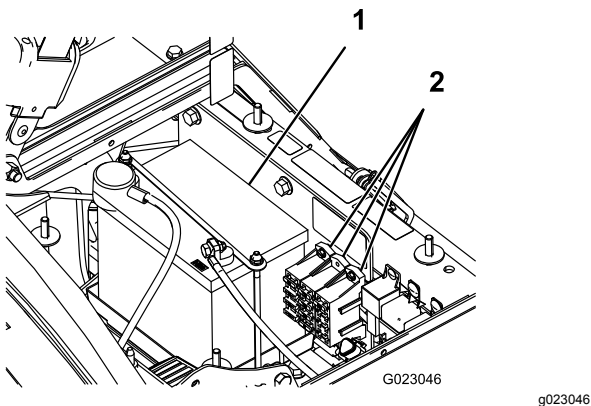

Figure 33
There are 2 fuse blocks and 1 empty slot in the electrical system. They are located beneath the seat (Figure 33).
2. The battery is located on the right hand side of the machine behind the pump (Figure 33).
5. Remove the battery retainer and fasteners (Figure 33).
2. Install the battery retainer and secure it with the fasteners you removed previously (Figure 33).
4. Install the battery cover and secure it with the 2 knobs (Figure 33).
1. Loosen the knobs on the sides of the battery box and remove the battery cover (Figure 33).